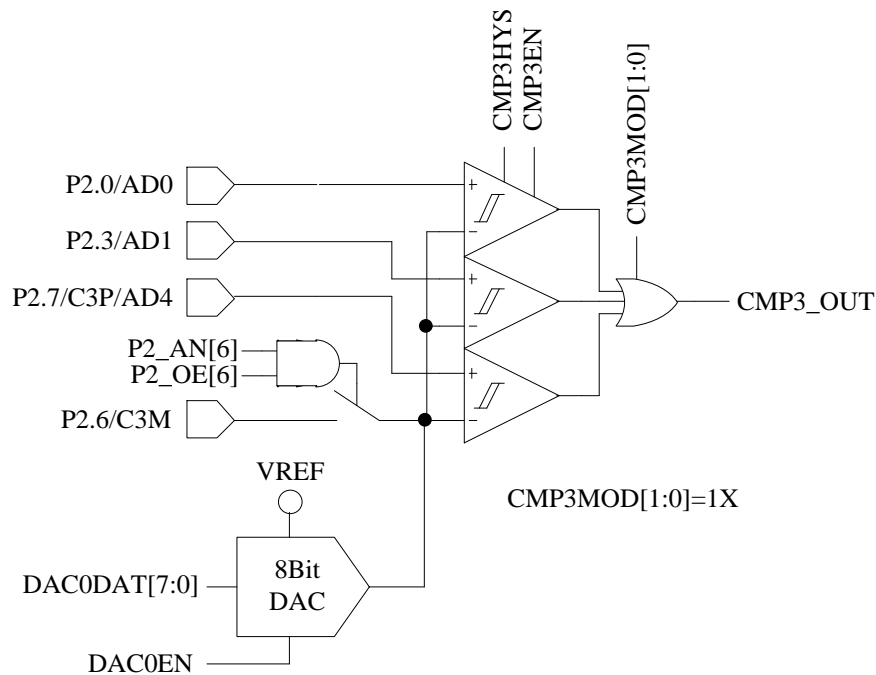

Figure 30-4 Triple-comparator Input Mode
- When CMP_CR1[CMP3MOD] = 1X, CMP3 works in Triple-comparator Input Mode. The connection of input and output pins are as shown in Figure 30-4.